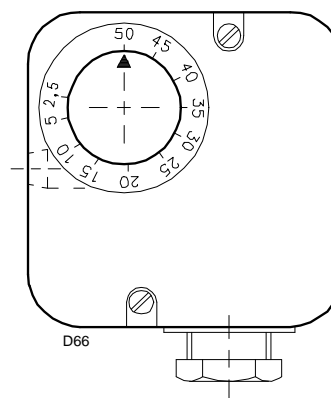

Fig. 33
- Adjust the maximum gas pressure switch to the start of the scale (Fig. 33).